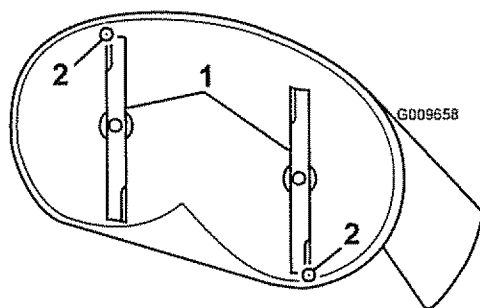
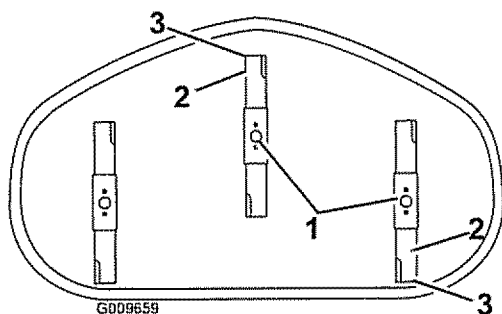

Figure 49
Figure 50
4. Carefully rotate the blades so they are facing front to rear (Figure 49 and Figure 50).
5. Measure from the tip of the front blade to the flat surface and the tip of the rear blade to the flat surface (Figure 49 and Figure 50). If the front blade tip is not 1/16-5/16 inch (1.6-7.9 mm) lower than the rear blade tip, adjust the front locknut.
8. After adjustment, check the front-to-rear slope again. Continue adjusting the nut until the front blade tip is 1/16-5/16 inch (1.6-7.9 mm) lower than the rear blade tip (Figure 49 and Figure 50).